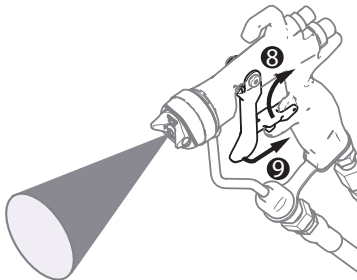

FIG. 35
9. Disengage the trigger lock on the gun as shown in **Figure 35**.